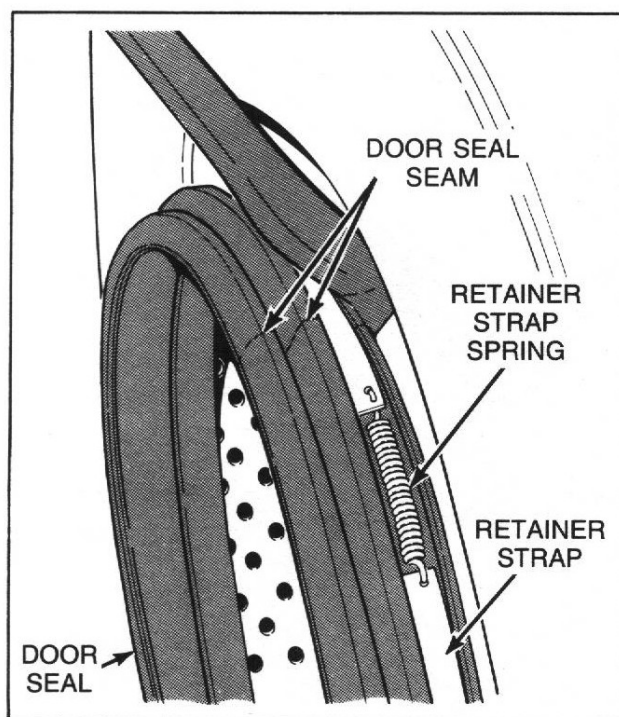

Figure 17
- Disconnect retainer strap spring from retainer strap, *Figure 17*.
**IMPORTANT:** Reinstall door seal with seam at top, *Figure 17*.